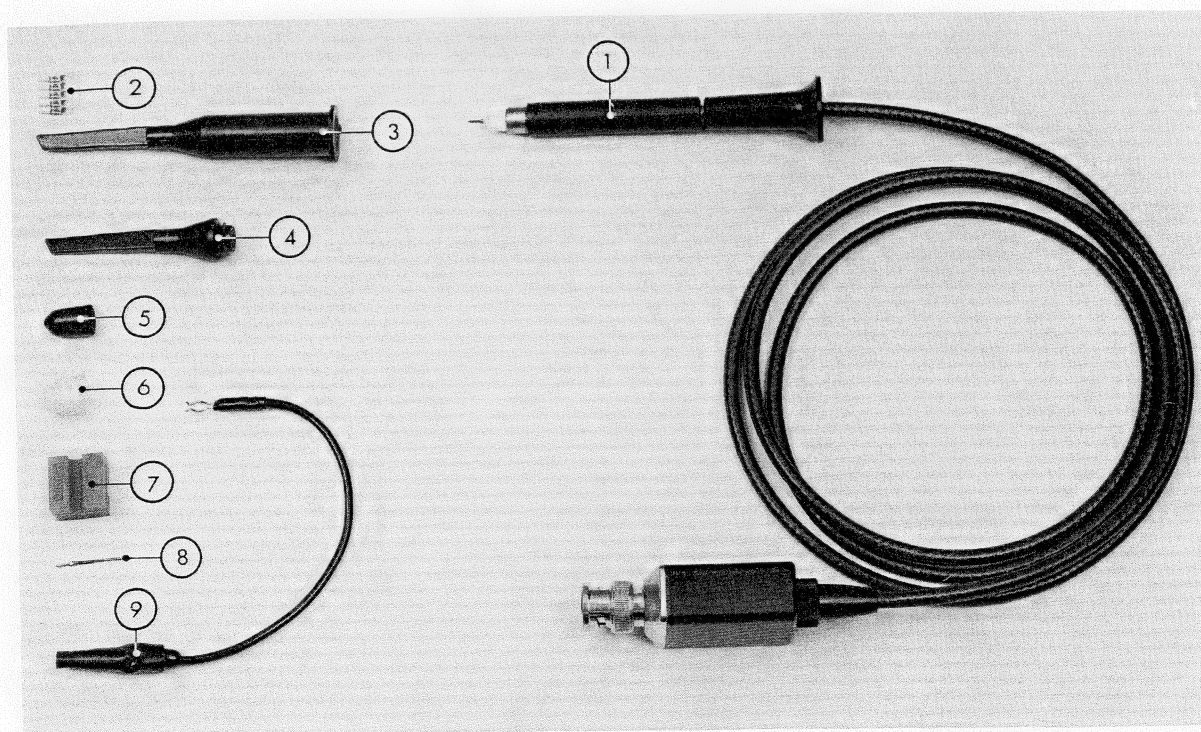

Fig. 3.19. Attenuator probe set PM 9358
1 probe assembly	Fig. 3.19. item 1
5 soldering terminals	Fig. 3.19. item 2
1 test hook	Fig. 3.19. item 3
1 spare test hook sleeve	Fig. 3.19. item 4
1 protective cap	Fig. 3.19. item 5
1 insulating cap	Fig. 3.19. item 6
1 probe holder	Fig. 3.19. item 7
2 spare test pins	Fig. 3.19. item 8
1 earthing cord	Fig. 3.19. item 9